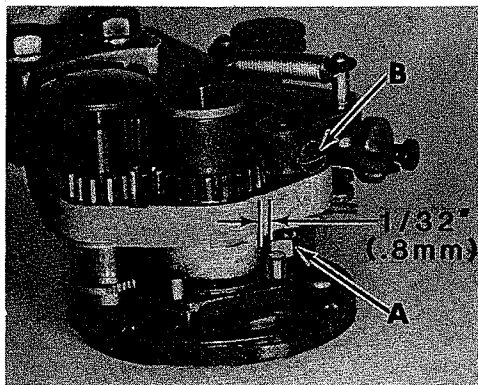

Fig. 44
The escapement lever (A, Fig. 44) functions as a stop for the button holder as it rotates 120 degrees each machine cycle. The lever must be adjusted to release the stop pins of the button holder allowing it to rotate.
There should be 1/32 inch (0.8 mm) clearance between the tip of the escapement lever and the clamp housing (Fig. 44).
Loosen screw (B, Fig. 44) located on the right side of the clamp and rotate the lever to the proper position. Remove end play in shaft and tighten screw (B).